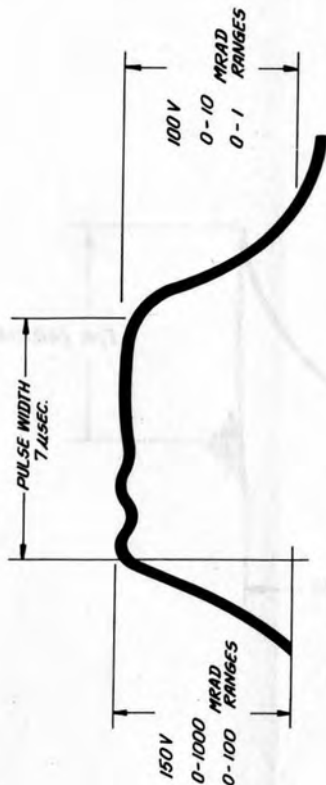

Figure 5-10. Driver Pulse Waveform at G-M Anode Socket
(6) Turn the range switch to the 0-1000 mrad/hr range.
(7) Adjust 2A2A1R3 for 550 to 560 V.
(8) Adjust 2A2A1R5 for a "driver" pulse period of 800 microseconds.
(9) Change the scope sweep to 1 microsecond/cm and adjust 2A2A1R12 for an average pulse width of 7 microseconds. See Figure 5-10.
(10) There is interaction between all three controls, so repeat steps (7), (8), and (9) until proper settings are obtained.
(11) Turn the range switch to the 0-10 mrad/hr range. The "driver" pulse amplitude will decrease to approximately 100 V.
(12) Adjust 2A2A1R4 for 700 - 710 V.
(13) Turn the range switch to OFF and reassemble the low range probe. Leave the auxiliary open.
(14) Source Calibration - Calibration of the low range accessory is accomplished principally by a single control. Both beta window shutters should be closed and the probe positioned at right angles to the beam.